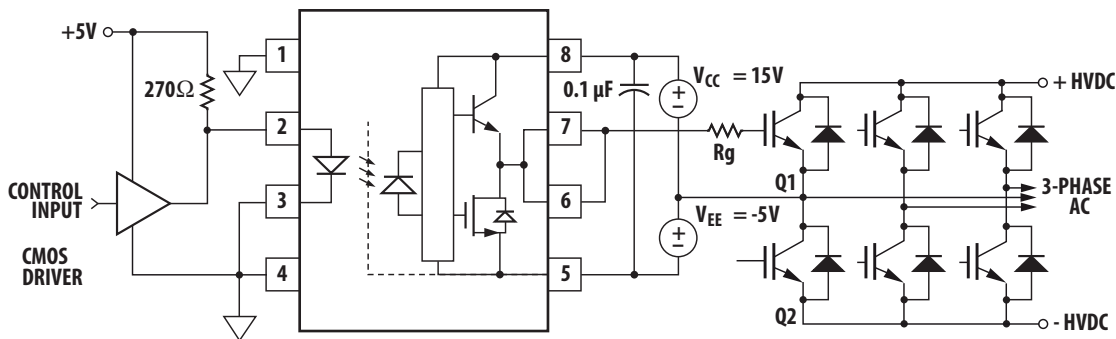

Figure 26. ACPL-312T typical application circuit with negative IGBT gate drive.
Step 1: Calculate R_g Minimum from the I_{OL} Peak Specification. The IGBT and R_g in Figure 26 can be analyzed as a simple RC circuit with a voltage supplied by the HCPL-3120.
For the circuit in Figure 26 with I_F (worst case) = 16 mA, R_g = 8 Ω, Max Duty Cycle = 80%, Q_g = 500 nC, f = 20 kHz and TA max = 85°C: